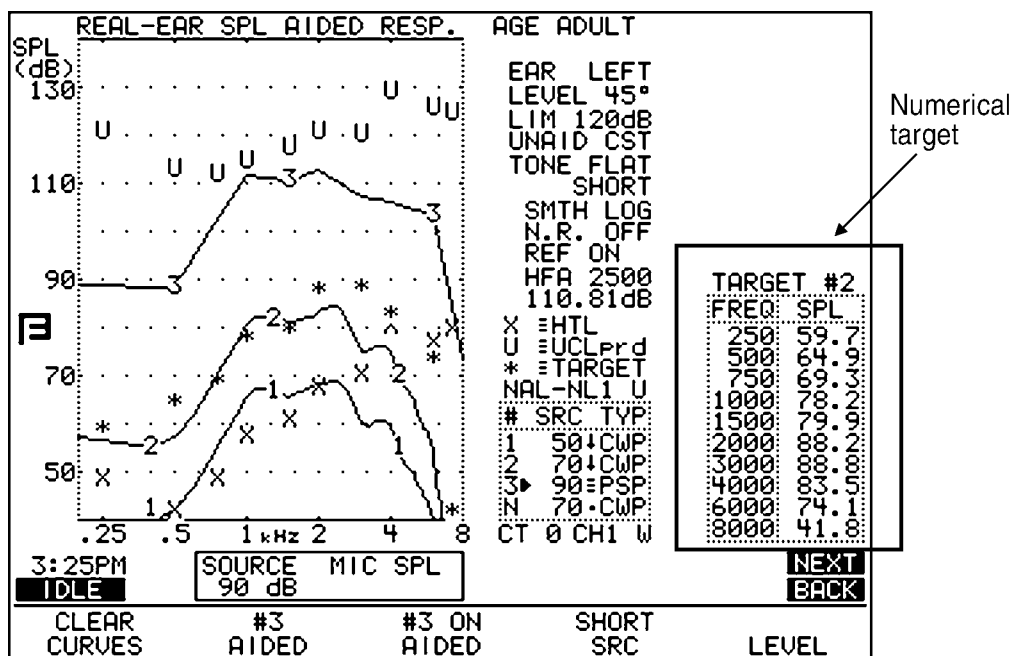

Figure 5.7.5—Numerical display of target data
5. Use [EXIT] to return to the real-ear measurement screen. The target data will now be displayed. See Figure 5.7.5.